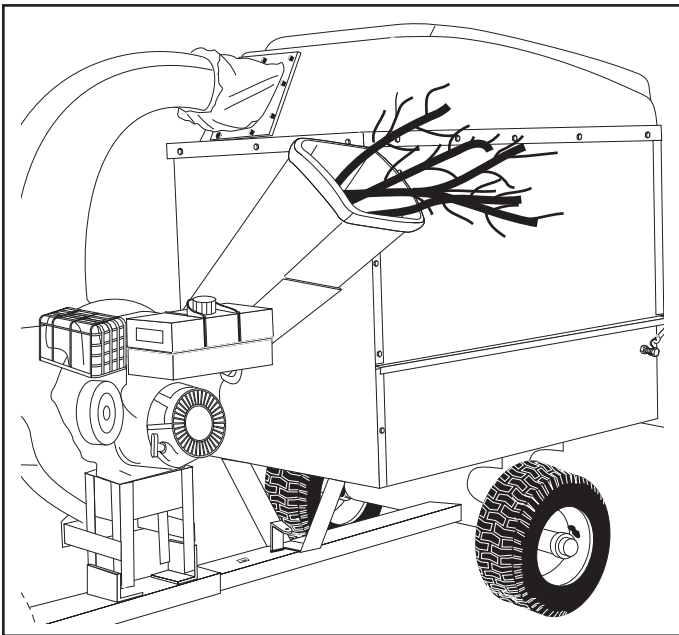

FIGURE 32
1. Material such as stalks or heavy branches up to 3" in diameter may be fed into the chipper chute as shown in figure 32.